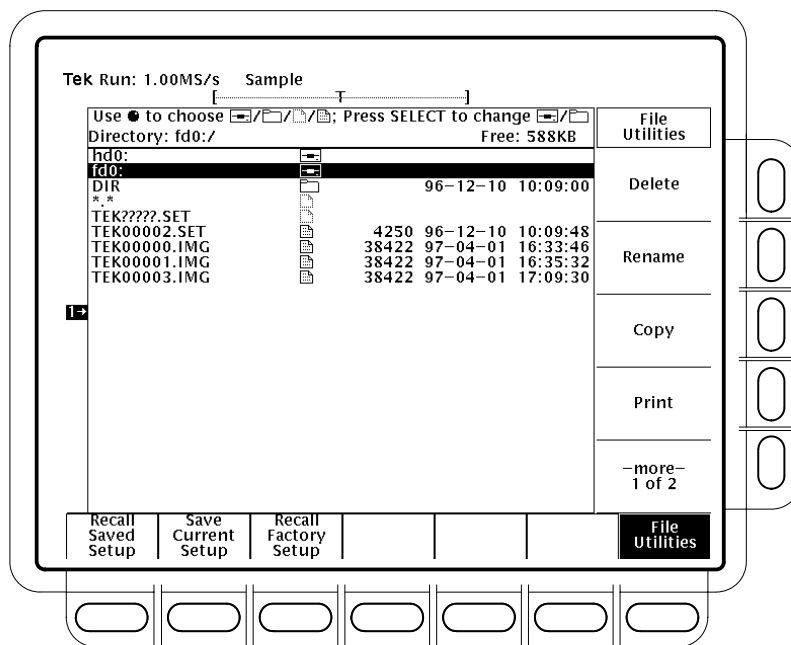

Figure 3–78: File Utilities
3. Press **File Utilities** in the main menu to bring up the File Utilities side menu. (See Figure 3–78.)
**NOTE.** The amount of free space on the active disk is shown in the upper right corner of the display. The oscilloscope shows the amount in Kbytes (or in Mbytes if the free space is 1 Mbyte or more). To convert the amount to bytes, you simply multiply the Kbytes amount times 1024. Thus, the 690 Kbytes shown in Figure 3–78 = 690 Kbytes x 1024 bytes/Kbyte = 706,560 bytes.